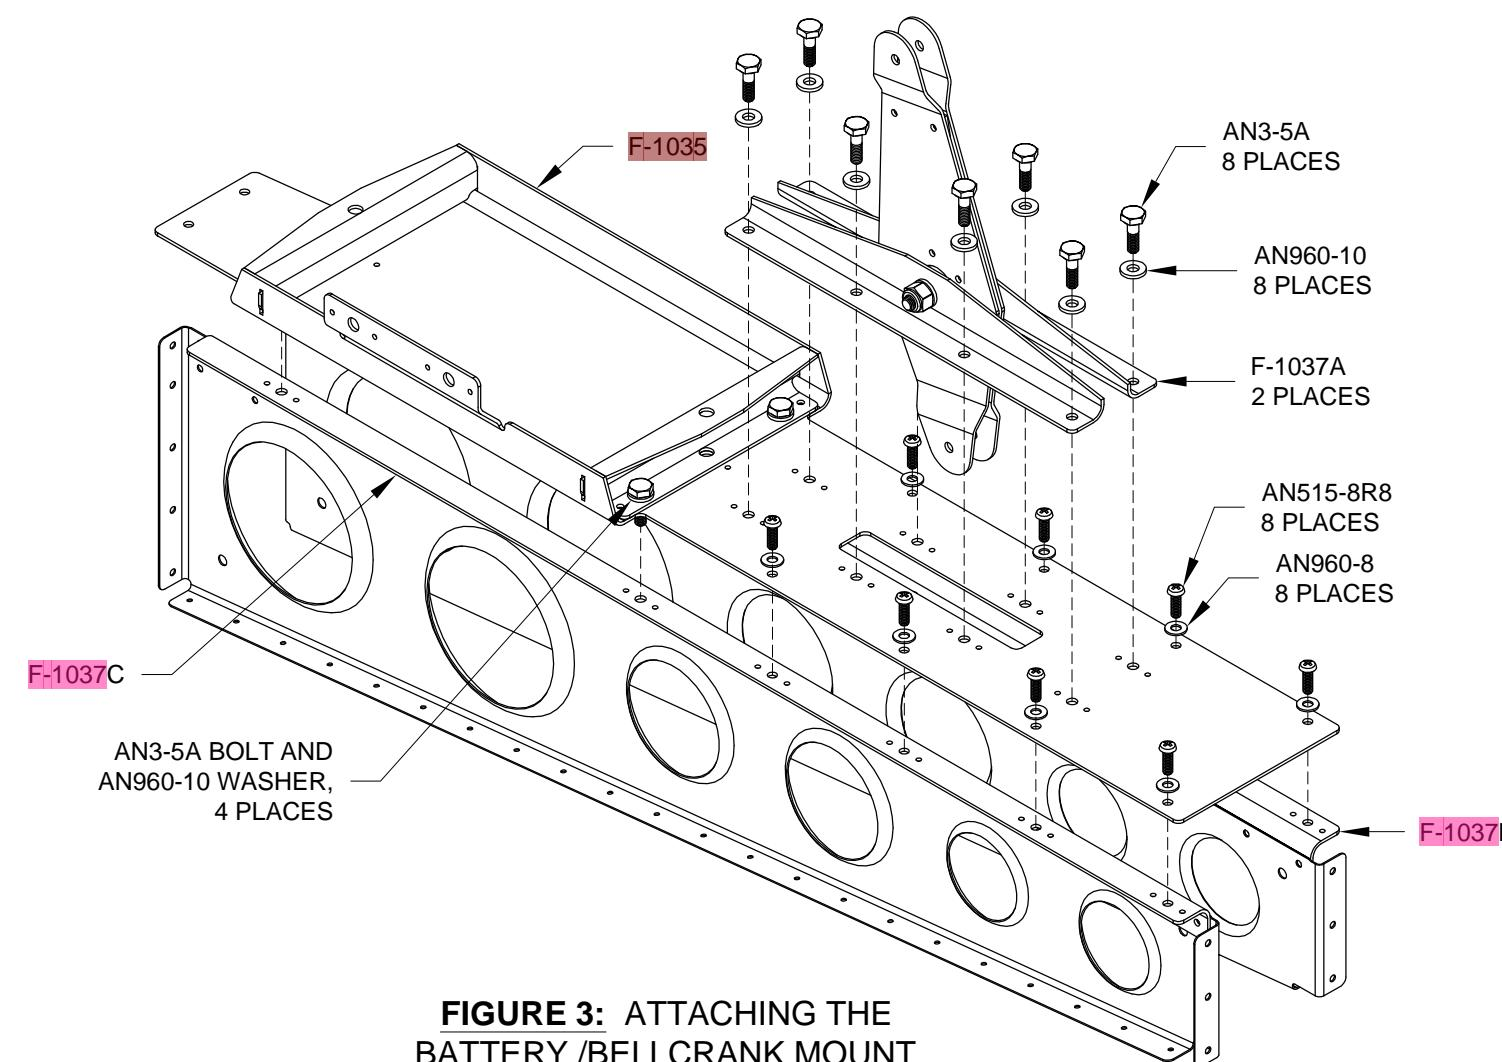

FIGURE 3: ATTACHING THE BATTERY /BELLCRANK MOUNT
Step 4: Bolt the two F-1037A Bellcrank Angles to the F-1035 Battery /Bellcrank Mount using the hardware shown in Figure 3.
Step 5: Attach the F-1035 Battery /Bellcrank Mount to the F-1037B & C Bellcrank Rib Angles using the hardware shown in the Figure 3. Do not secure the fasteners in this step completely; the battery /bellcrank mount will have to be removed later.